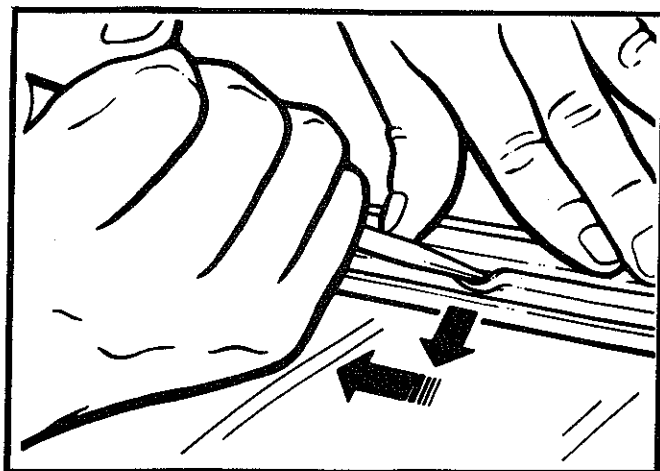

Fig. 22—Inserting moulding by sliding screw driver
(5) Slide the screw driver along the groove, keeping the weather strip open, while pressing the moulding firmly by hand, refer Fig. 22.